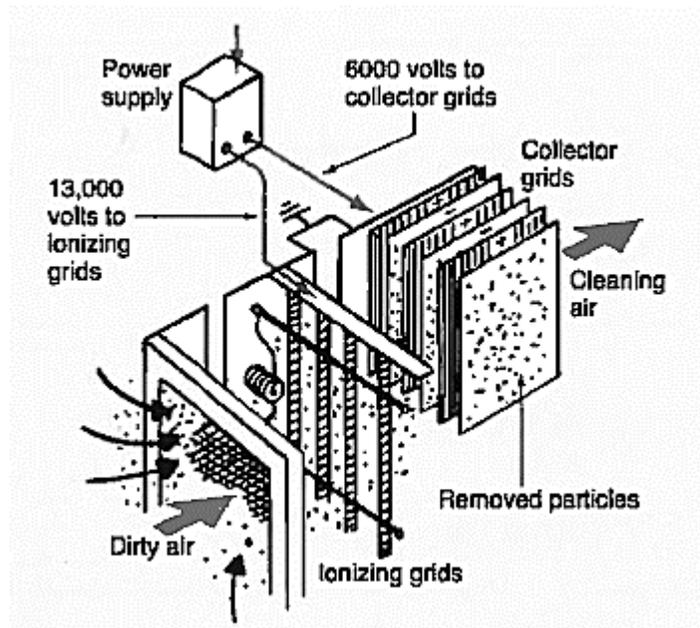

Figure 2.10: Electrostatic Filter
- 2-79 Then the air passes over a second set of grids. These grids carry a charge opposite to the charge on the first set. The dust particles are attracted to these grids, as shown in Figure 2.10.